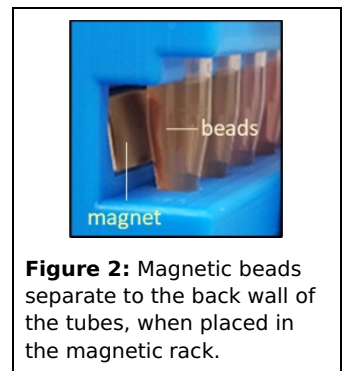

Figure 2: Magnetic beads separate to the back wall of the tubes, when placed in the magnetic rack.
- Slide the tube rack onto the magnetic stand and allow to sit for 1-2 minutes, until the magnetic beads separate from the homogenate (Figure 2).